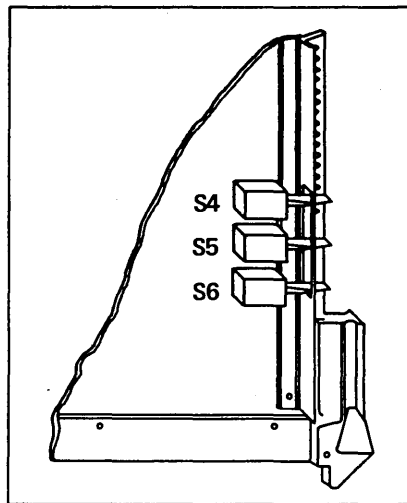
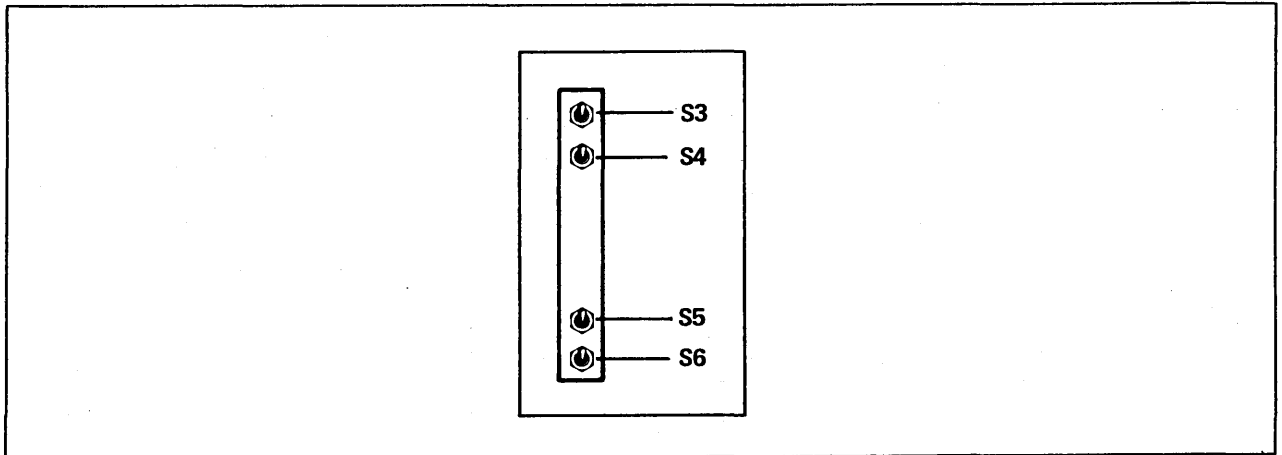

Figure G-13. Switch Numbering Scheme for Models 815 and 825 without Memory Upgrade Option
Figure G-15. Switch Numbering Scheme for Models 835, 845, and 855 without Memory Upgrade Option
4. If all of the CM reconfiguration switches (refer to figures G-13 and G-14 for models 815 and 825; figure G-15 for models 835, 845, and 855; and G-17 for model 990 without the memory upgrade option) are centered, reset them to the position shown in the Reconfiguration Setting Switch Number column and deadstart. If the switches are not centered before the attempt to reconfigure, additional reconfiguration is not recommended.